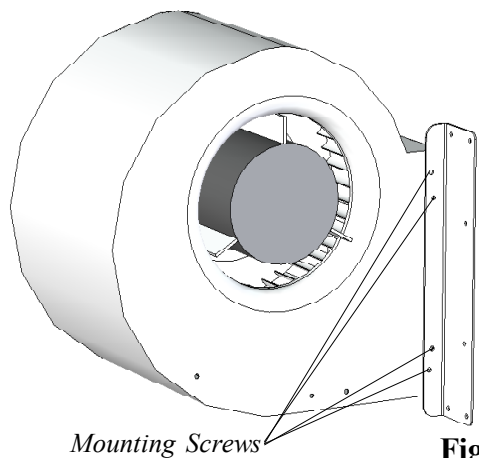

Fig. 11
Install the blower mounting brackets on the blower as shown in Fig. 11.
1. Install (4) Tek screws on each side where shown in Fig. 11. Start with the two center screws.